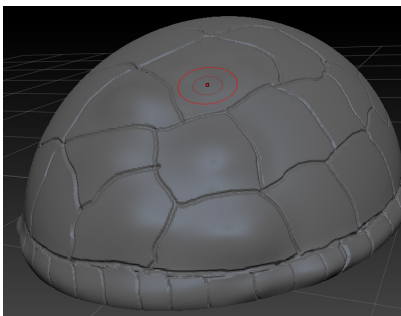

Figure 3-64 Depth added to the pattern using the **Standard** brush
2. Press and hold the left mouse button and drag the cursor on the pattern created earlier; a depth is added to the pattern, refer to Figure 3-64.